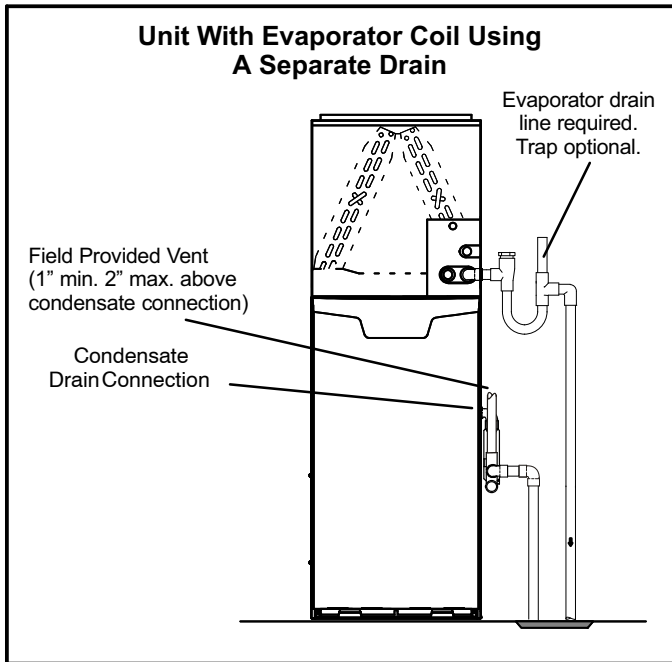

FIGURE 46
- 5 - Figures 46 and 48 show the furnace and evaporator coil using a separate drain. If necessary the condensate line from the furnace and evaporator coil can drain together. See figures 47, 49 and 50.